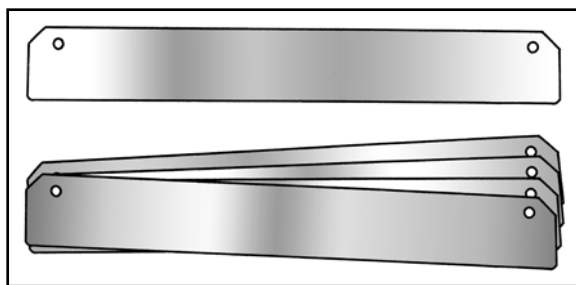

Fig. 2
- 3 Place the built-in platform in the compartment of the furniture and use, if required, sheet metal shims to pad the gap between the sides of the compartment and the platform (**Fig. 2**).